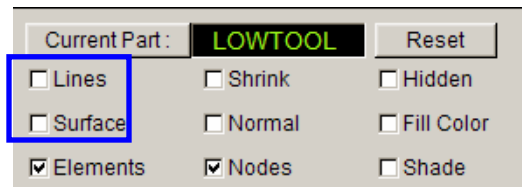

Figure 92: Display options
5. Toggle off the **Lines** and **Surfaces** option in the **Display Options** located at the lower right corner of screen. See Figure 92.